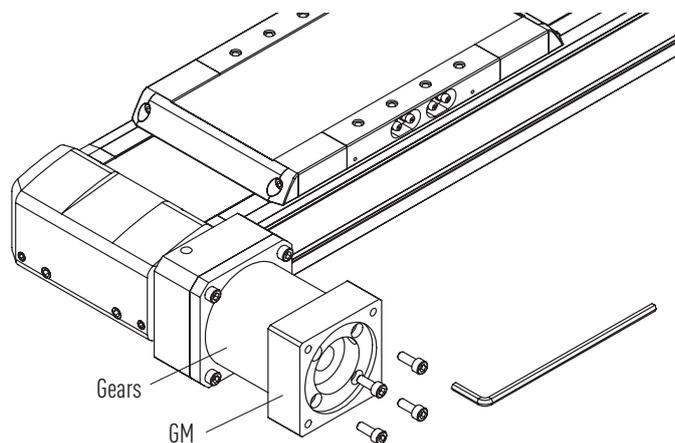

Fig. 6.80 Mounting the motor gear adapter plate GM (HT-B)
- ▶ Attach the motor gear adapter plate GM so that it lies flat on the gears. In doing so, note the position of the hole for the clamping hub's clamping bolt (see Fig. 6.80).